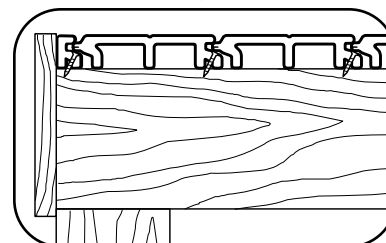

Fig. 5
- Fasten planks as you did the first row (Fig. 5).